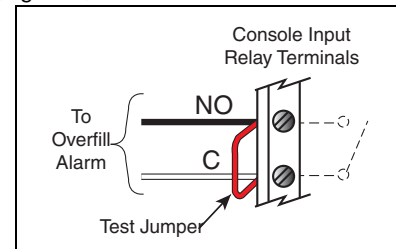

Figure 4. Lamp Test Jumper Console Connection
1. With no deliveries about to begin or in progress, turn off, tag and lockout power to the console and to the Overfill Alarm box. Open the console door and locate the relay output terminals that are wired to the Overfill Alarm box. Put a jumper between these two terminals (Figure 4)..